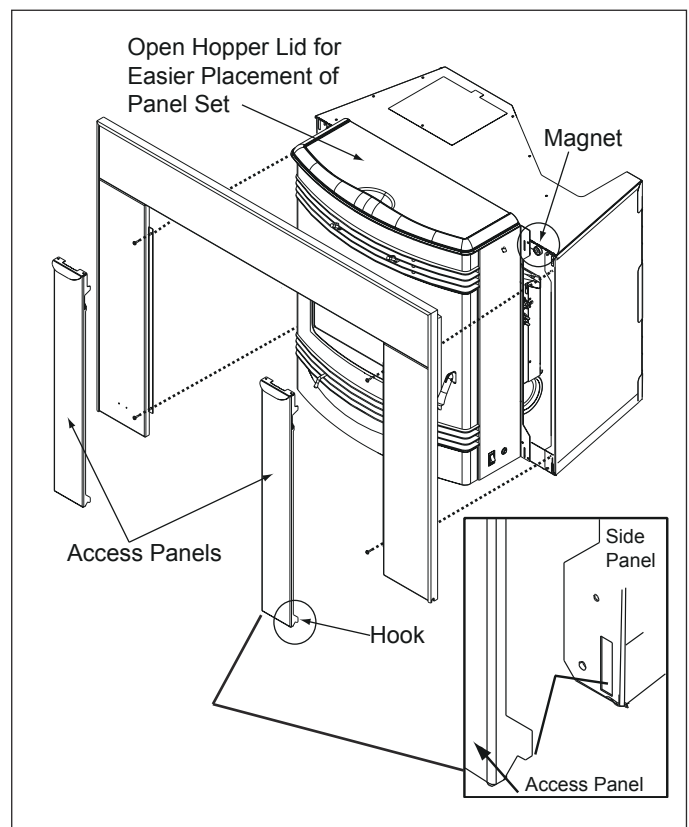

Figure 21.3
2. Open the hopper lid by pulling toward you. This will make it easier to set the panels in place. Secure the panels to the insert, 2 screws per leg, as shown in **Figure 21.3.**
5. Install the access panels. At the bottom of the access panel there are 2 hooks that slip into a slot at the bottom of the side panel and a magnet at the top that holds the access panel in place. **Figure 21.3.**